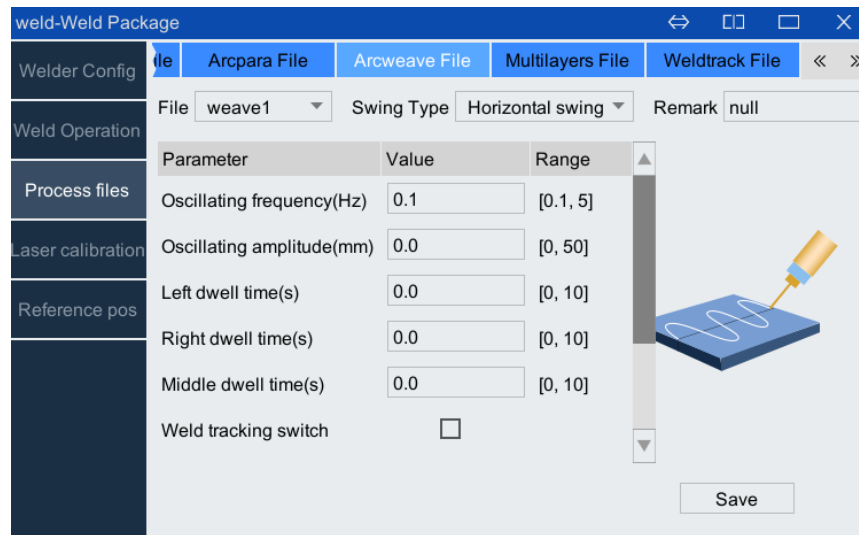

Figure 10-4 Weave parameter setting page
Step1. On the main interface of the teach pendant, click the option [Extended/weld/Welding Package/Process files/Arcweave File], and the interface shown in Figure 10-4 will pop up.